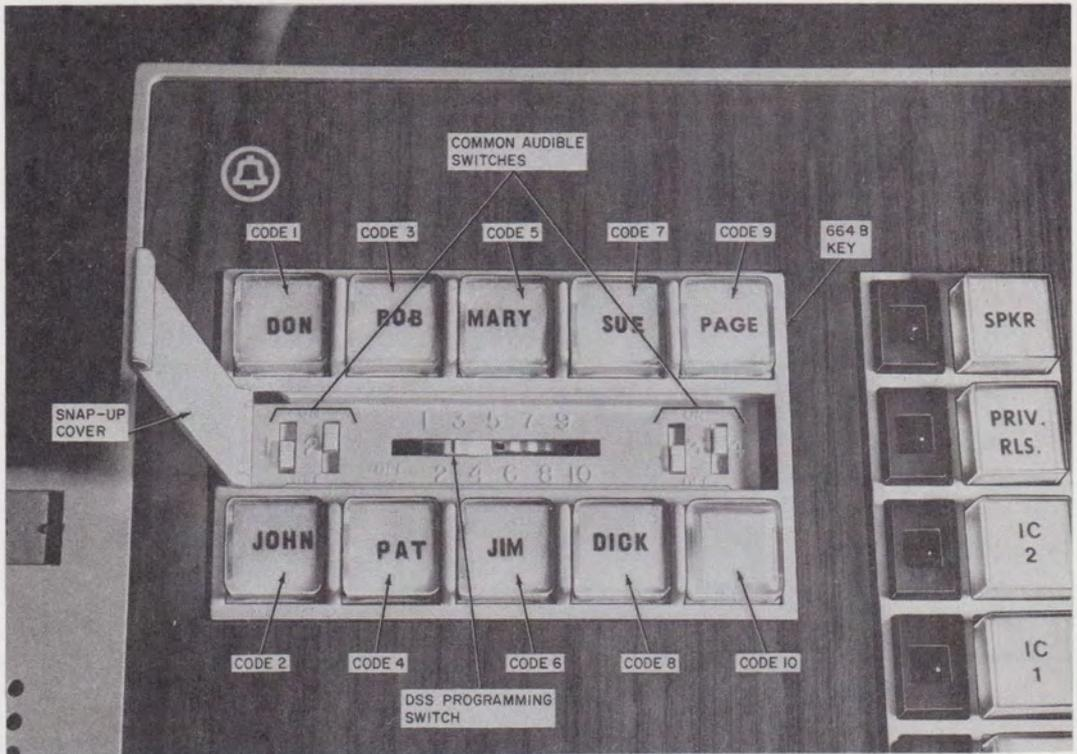

Fig. 20—DSS Key, Cover Open
intercom code of the station (Fig. 20). Repeat the following procedure at each station:
- (1) Raise the cover by pressing on the left end to tilt it up or pry up the right end with a fingernail.
- (2) Find out which CO/PBX lines are to ring at the station. Set the switch for each line either ON or OFF. ♦On the standard DSS key (664B), ON is up and OFF is down; on the code busy DSS key (664C), ON is right and OFF is left.♦ (Fig. 20 shows the station coded to ring on lines 2 and 4.)
- (4) To set the intercom code, slide the DSS programming switch to the proper number between 1 and 10 (or to OFF if the station is to have no DSS code). Be careful that the switch is not between detent positions. (Fig. 20 shows the set coded as station 3.)